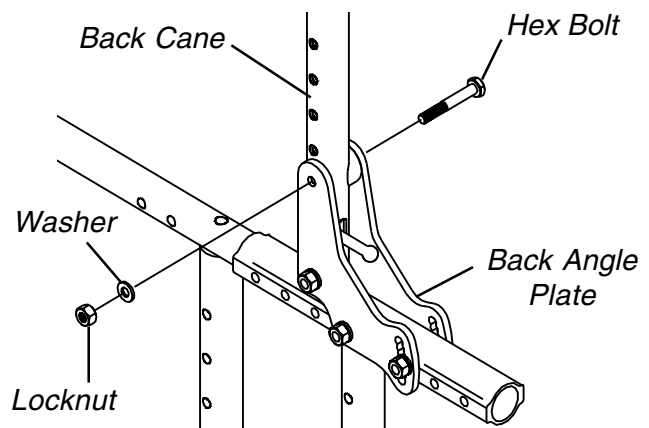

FIGURE 12 - ADJUSTING THE BACK HEIGHT - FIXED HEIGHT BACKS
Fixed Height Backs (FIGURE 12)
- Secure the new back canes to the back angle plates with hex bolts and locknuts. Torque to 35-inch pounds. Refer to **FIGURE 12** for correct hardware orientation.